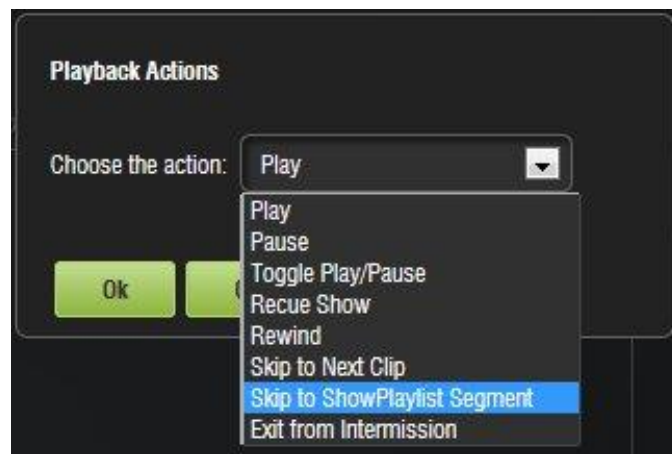

Figure 249: Playback Actions
- In the drop-down that appears, select Skip to Show Playlist Segment (Figure 249).